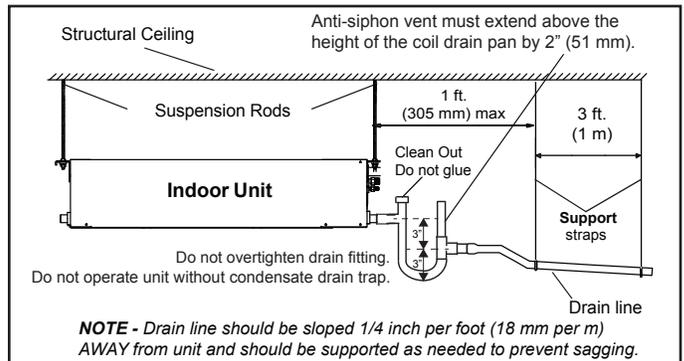

Figure 10. Sloped Condensate Gravity Drain Single Unit
- See Figure 10 for applications including a single unit and a single gravity drain. In this case, ensure that the drain line is properly sloped (no less than 1/4 inch per foot) and condensate lines are routed to ensure moisture is drained away from the indoor unit.